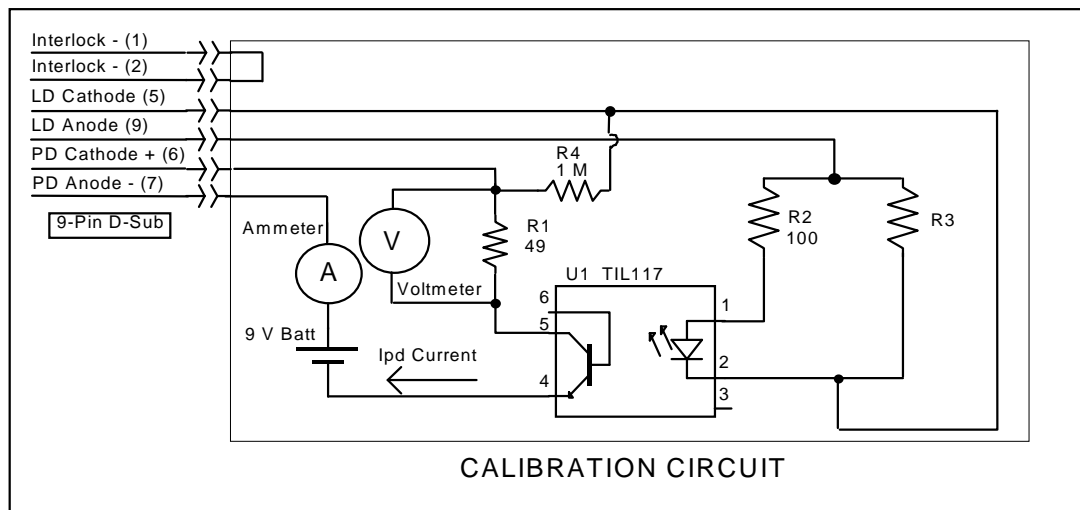

Figure 3.1 I_{PD} Calibration Circuit
- 1 Select the LCM-39440 to be calibrated by pressing the appropriate (ADJUST) switch until the LAS indicator is orange. With the LASER output off, connect a calibrated ammeter to the PD Anode output of the LCM-39440, and connect the circuit of Figure 3.1 to the LASER and PD outputs.
If a calibrated ammeter (with 0.1 μA resolution) is not available, place a calibrated DMM (with 0.1 mV resolution) to measure the voltage across the resistor, R1, as shown in Figure 3.1. Calculate the current in the following steps by using Ohm's Law:
- 1 With the LASER output off, connect a calibrated ammeter to the PD Anode output of the LCM-39440, and connect the circuit of Figure 3.1 to the LASER and PD outputs.
If a calibrated ammeter (with 0.1 μ A resolution) is not available, place a calibrated DMM (with 0.1 mV resolution) to measure the voltage across the resistor, R1, as shown in Figure 3.1. Calculate the current in the following steps by using Ohm's Law: